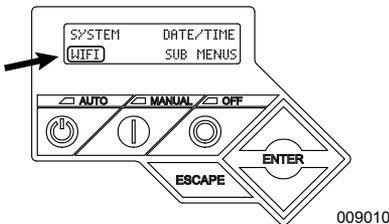

Figure 3-1. Enter Wi-Fi Menu
1. See Figure 3-1. With the generator operating, enter Wi-Fi menu by selecting "WIFI" on the controller display.